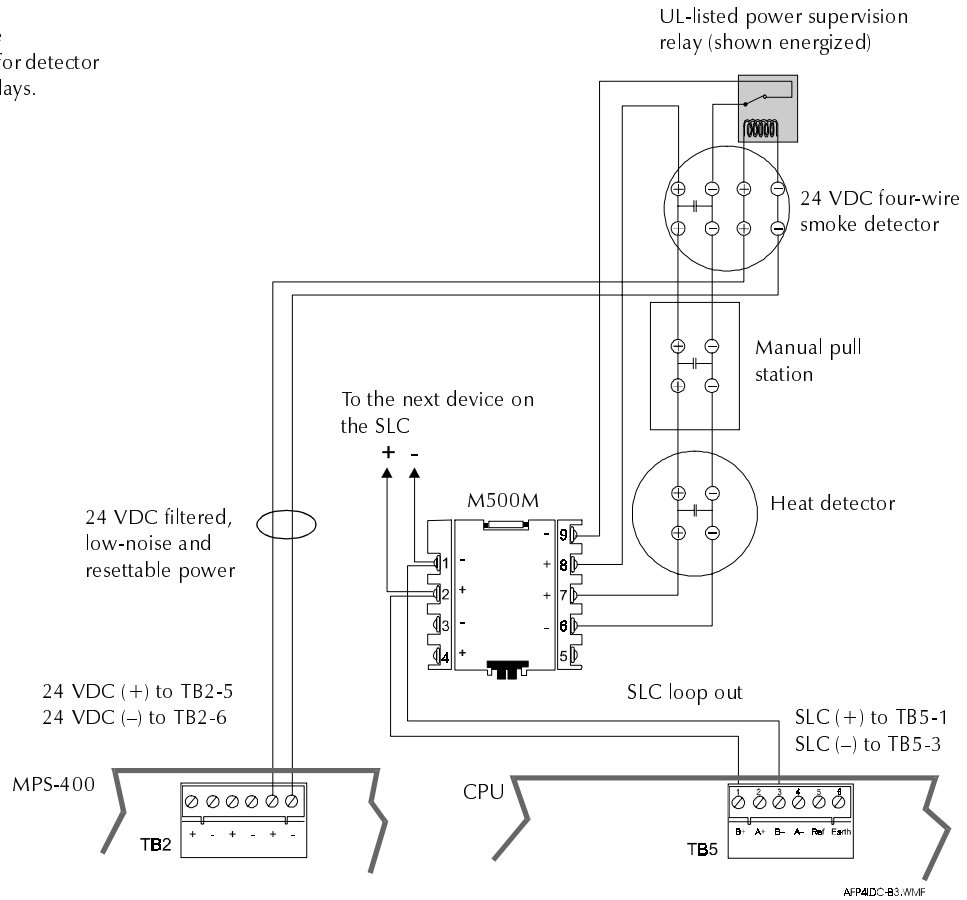
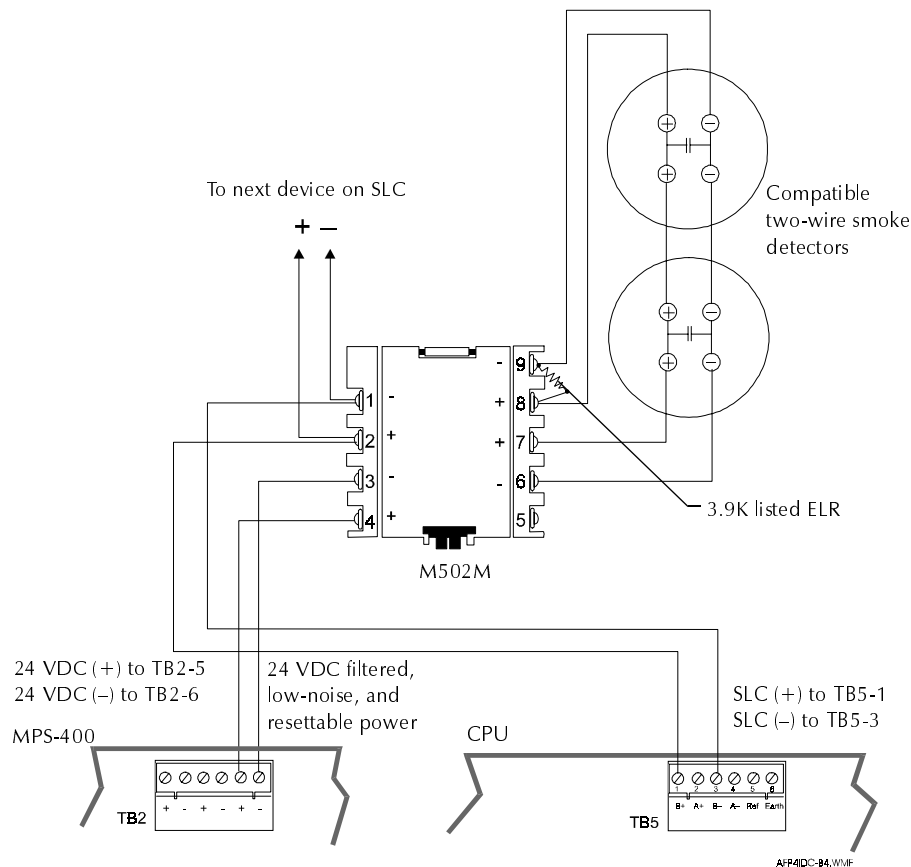

Figure 2-70 Typical Style D (Class A) IDC Wiring with M500Ms
Figure 2-71 Typical Style D (Class A) IDC Wiring with M502Ms
- NFPA Style D Initiating Device Circuit – see Figure 2-70 and Figure 2-71.
Figure 2-70 shows typical wiring for a supervised and power-limited NFPA Style D (Class A) IDC using M500M modules. Maximum IDC resistance is 20 ohms.
Figure 2-71 shows typical wiring for a Style D IDC using an M502M module. For electrical specifications for a Style D IDC, see Table 2-21.
Figure 2-71 shows typical M502M wiring for a supervised and power-limited NFPA Style D (Class A) IDC: